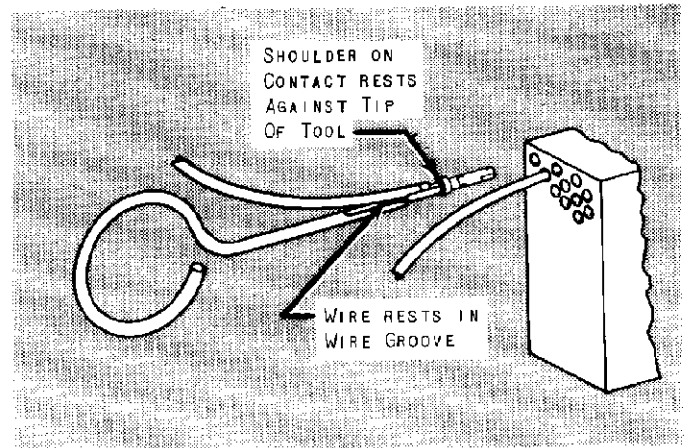

Fig. 2
- (a) Place crimped Contact in Tip of Tool as shown in Figure 2. Note that Shoulder on Contact rests against Tip of Tool.